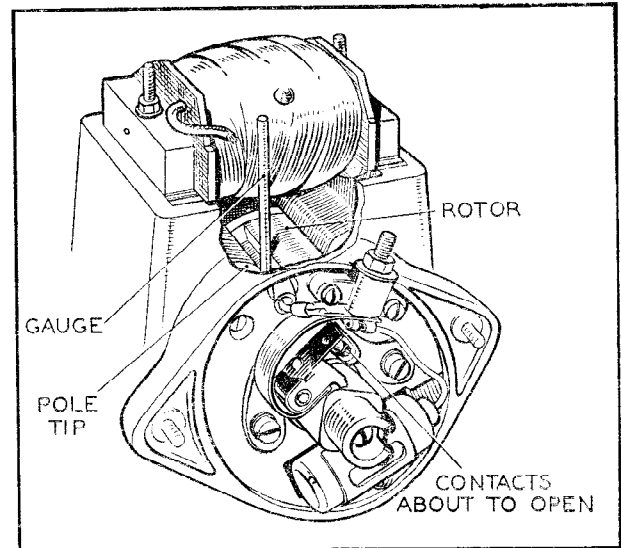

Fig. 9.
- (iii) Insert a gauge between the trailing tip of the rotor pole shoe and the adjacent stator pole. Use a 0.086" gauge or a No. 44 drill shank for all VR magnetos and a 0.106" gauge or a No. 37 drill shank for model 8WRSF, see Fig. 9.